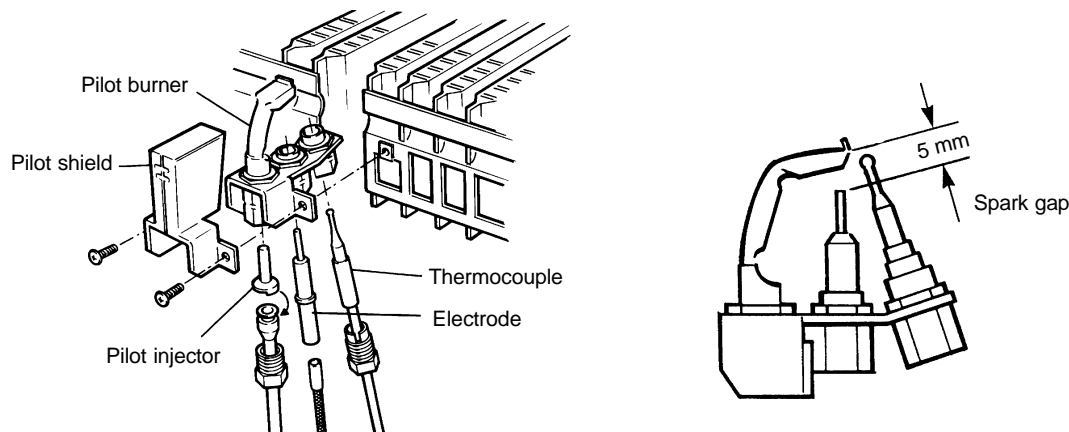

Fig. 19
9. Check the spark gap, positioning and height of the electrodes (see Fig. 19).
8.3 PILOT COMPONENTS - Fig. 19
Disconnect the lead from the electrode, unscrew the nut and withdraw the electrode. It will be necessary to remove the thermocouple first. Fit the new electrode and check the spark gap (see Fig. 19).
Disconnect the pilot supply and remove the injector. Fit the new injector over the pilot supply as shown in Fig. 19, and reconnect it to the pilot burner.